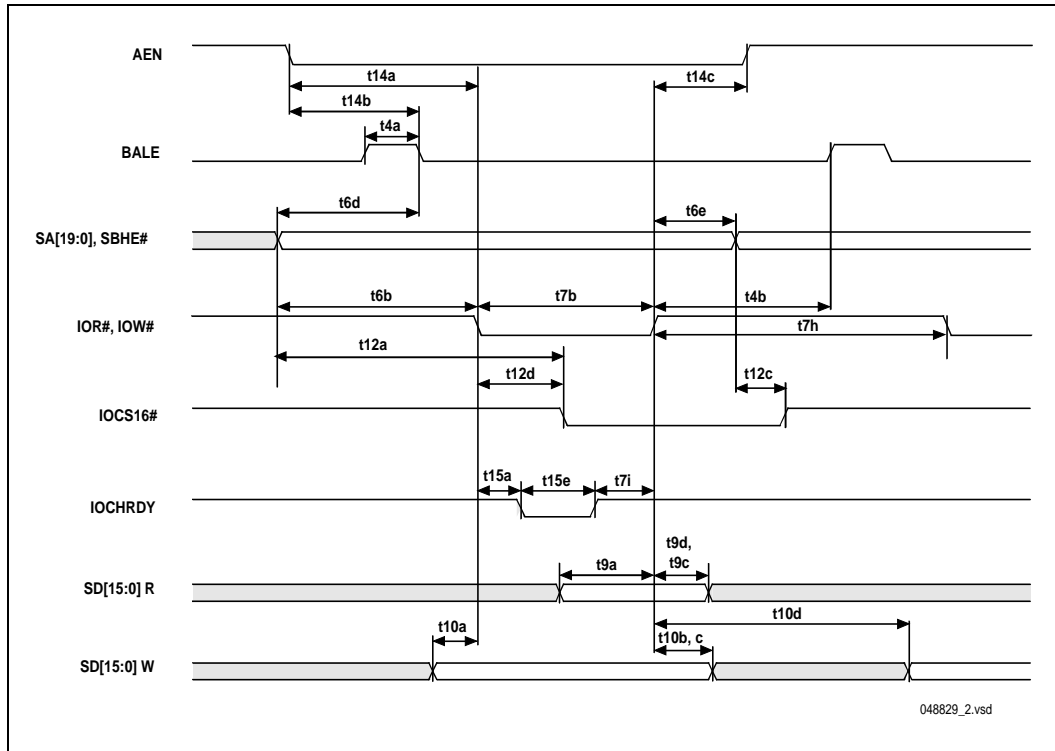

Figure 44. 16-Bit I/O Slave Timing (PIIX4E as Master)
2. These cycle timings are based on the STROBE period as indicated in Figure 44. However, Table 13 in the PIIX4E datasheet refers to cycle time strobe periods as 120ns, 90ns and 60ns for mode 0, 1, and 2 respectively. The datasheet timings are different because they are based on the number of PCI clocks per cycle, not the actual period between the rise and fall of STROBE.